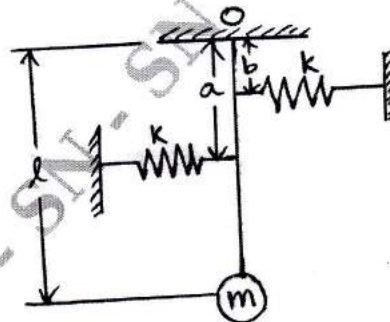

Fig.Q.3(b)
- b. Determine the natural frequency of the system shown in Fig.Q.3(b), using Newton's method. (10 Marks)